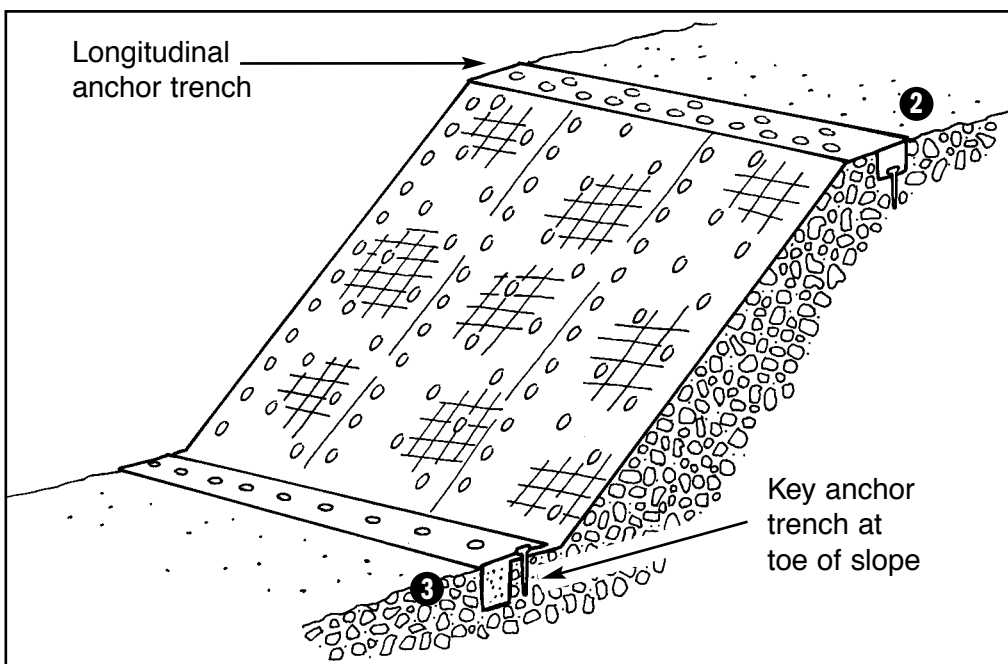

FIGURE 1
- ▶ Overlaps shall be 6 in (150 mm) minimum and anchored every 18 in (450 mm) minimum along the overlap. Secure using suggested ground anchoring devices shown in Table 1 for appropriate frequency and pattern. Overlaps are shingled away from prevailing winds (see Figure 1).